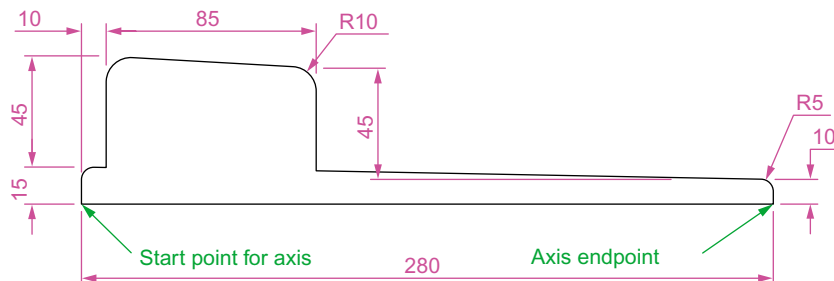

Fig. 12.17 First example – Revolve. The closed pline
1. Construct the closed polyline (Fig. 12.17).